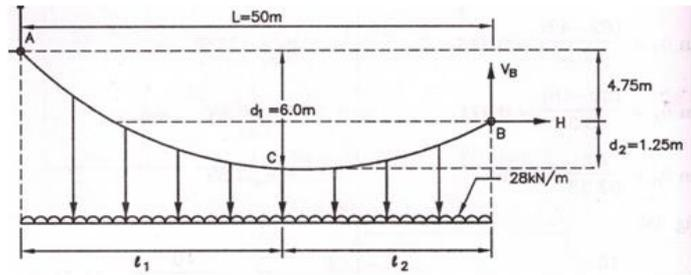

Figure-6
- (c)** As shown in figure- 6, a suspension cable is supported at two points 50 m apart. The left support is 4.75 m above the right support. The cable is loaded with uniformly distributed load of 28 kN/m throughout the span. The maximum dip in the cable from the left support is 6.0 m. Calculate the maximum tension in the cable. **07**